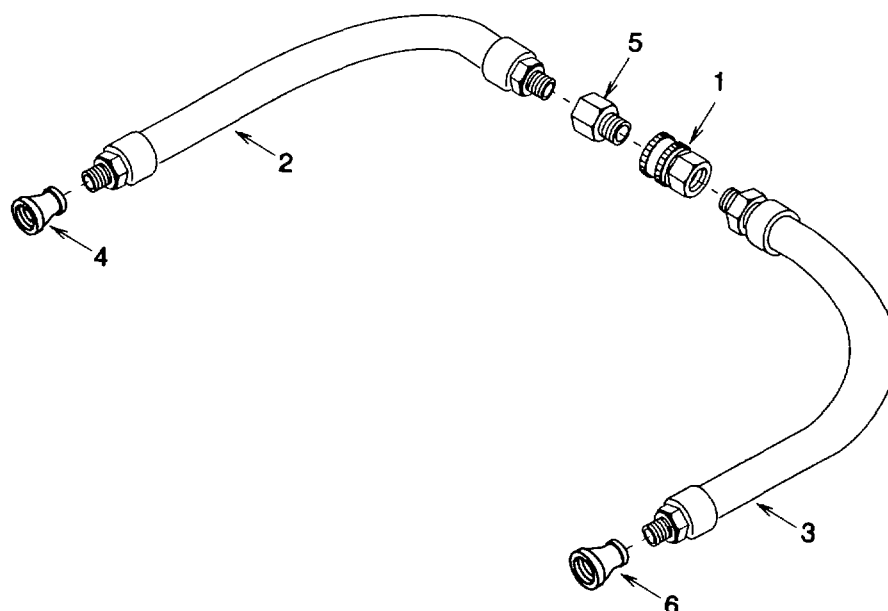

Figure 4-34. Hoses
**a. Removal** (See figure 4-34.)
- (1) Release quick coupling half (1) and disconnect hoses (2) and (3).
- (2) Disconnect reducing coupling (4) from hose reel swivel elbow.
- (3) Disconnect reducing coupling (4) and quick coupling half (5) from dry chemical hose assembly (2). Replace reducing coupling or quick coupling half if damaged.
- (4) Disconnect reducing coupling (6) from hose reel swivel elbow.
- (5) Disconnect reducing coupling (6) and quick coupling half (1) from AFFF hose assembly (3). Replace reducing coupling or quick coupling half if damaged.
**b. Installation** (See figure 4-34.)
- (1) Wrap antisieze tape onto threaded fittings of dry chemical hose assembly (2).
- (2) Connect reducing coupling (4) and quick coupling half (5) to dry chemical hose assembly (2) and tighten.
- (3) Wrap antisieze tape onto threaded fitting of hose reel swivel elbow.
- (4) Connect reducing coupling (4) to hose reel swivel elbow and tighten.
- (5) Wrap antisieze tape onto threaded fittings of AFFF hose assembly (3).
- (6) Connect reducing coupling (6) and quick coupling half (1) to dry chemical hose assembly (3) and tighten.
- (7) Wrap antisieze tape onto threaded fitting of hose reel swivel elbow.
- (8) Connect reducing coupling (6) to hose reel swivel elbow and tighten.
- (9) Release quick couplings half (1) and connect hoses (2) and (3) together.